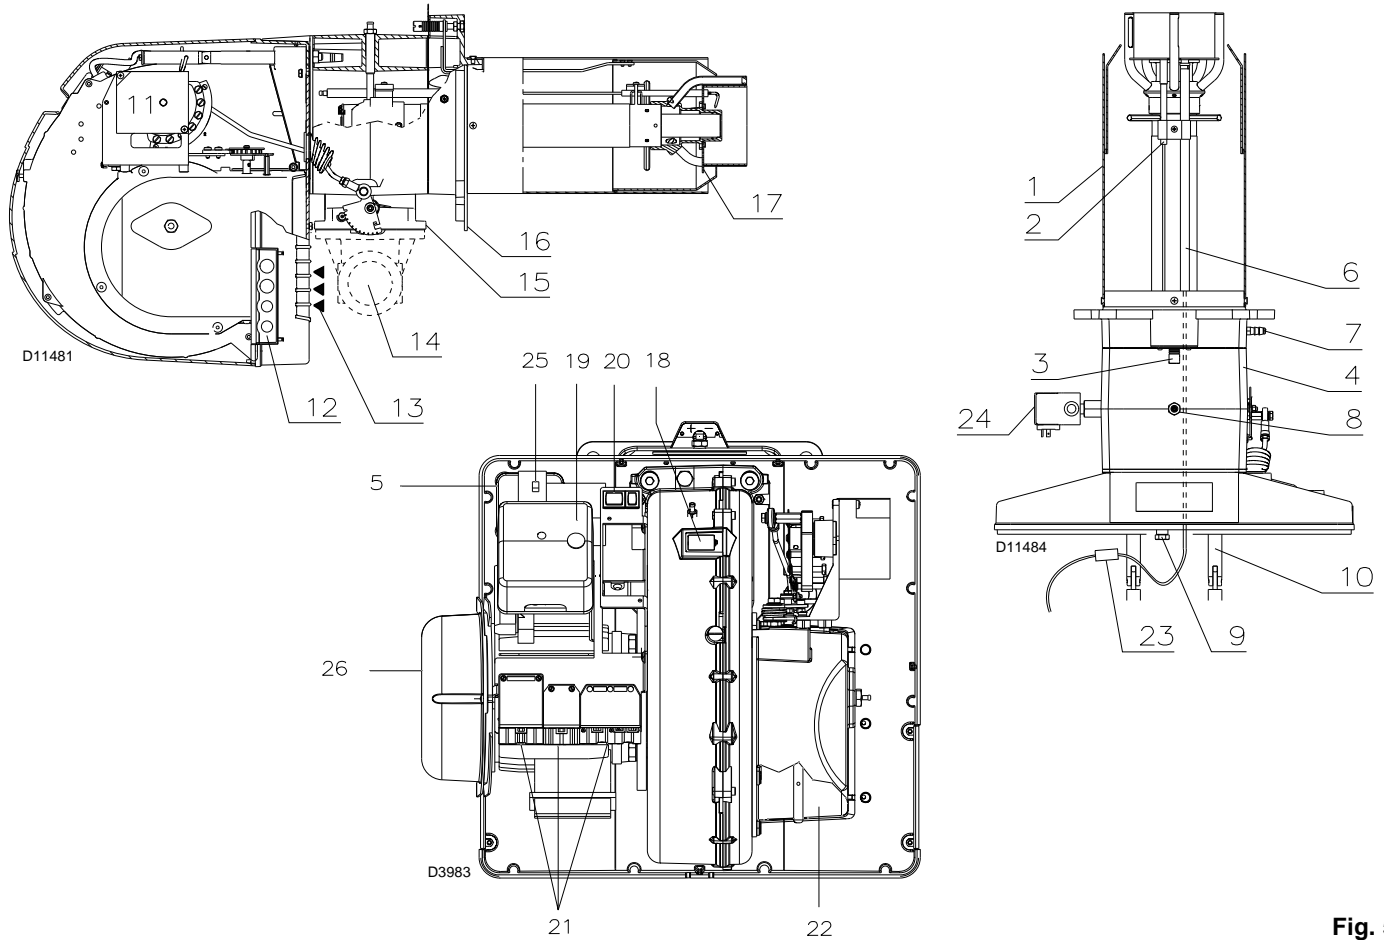

Fig. 5
(1) Reference conditions: Ambient temperature 20°C - Gas temperature 15°C - Barometric pressure 1013 mbar - Altitude 0 m above sea level.
(2) Pressure on the socket 5) (Fig. 5) with zero pressure in the combustion chamber and at maximum burner output.
(3) Noise emission tests carried out as per Directive EN 15036-1, with measurement accuracy $\delta = \pm 1.5$ dB, in the manufacturer's combustion lab with burner operating on test boiler at maximum output.
if the control box 19)(Fig. 5) push-button lights up, it indicates that the burner is in lockout.
three-phase electrical supply; to unblock, press the thermal relay switch 25)(Fig. 5).